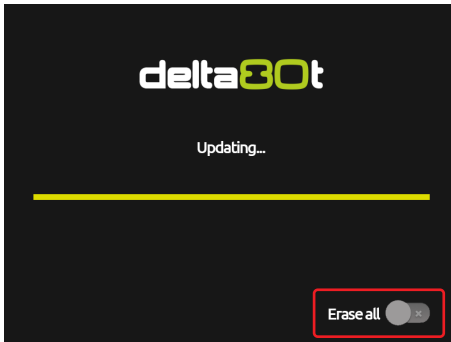
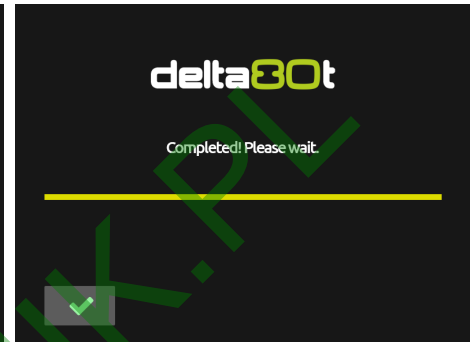

Fig. 167
Fig. 169
After this procedure and before the update is complete (i.e. before the colored progress bars reach the right end Fig. 166 / Fig. 167) choose the update mode using the Erase all key:
- The system has the **Erase all** key disabled by default (Fig. 167) then wait for the device to complete the update (Fig. 169).
- If the update is successful the display shows Fig. 169. Otherwise, follow the instructions on the display.